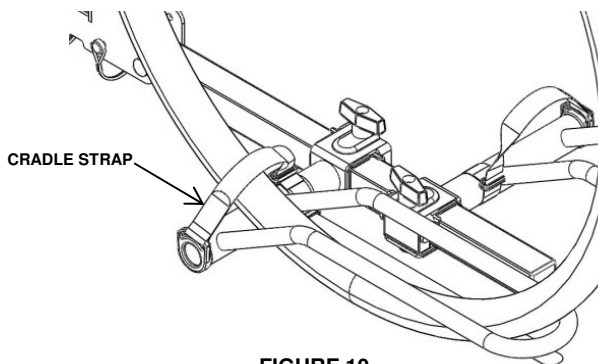

FIGURE 10
5. Loop Wheel Cradle straps over wheels and secure. (Fig 10)